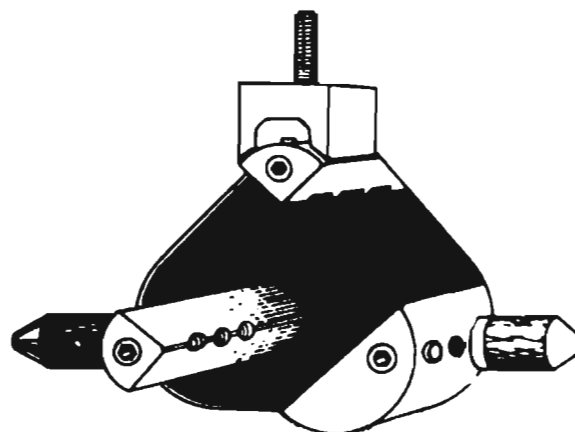

Fig. 13
2. Clean threads and seats of gaging points carefully; and screw into rear tapped holes in the gaging fingers until finger tight. (Fig. 13).